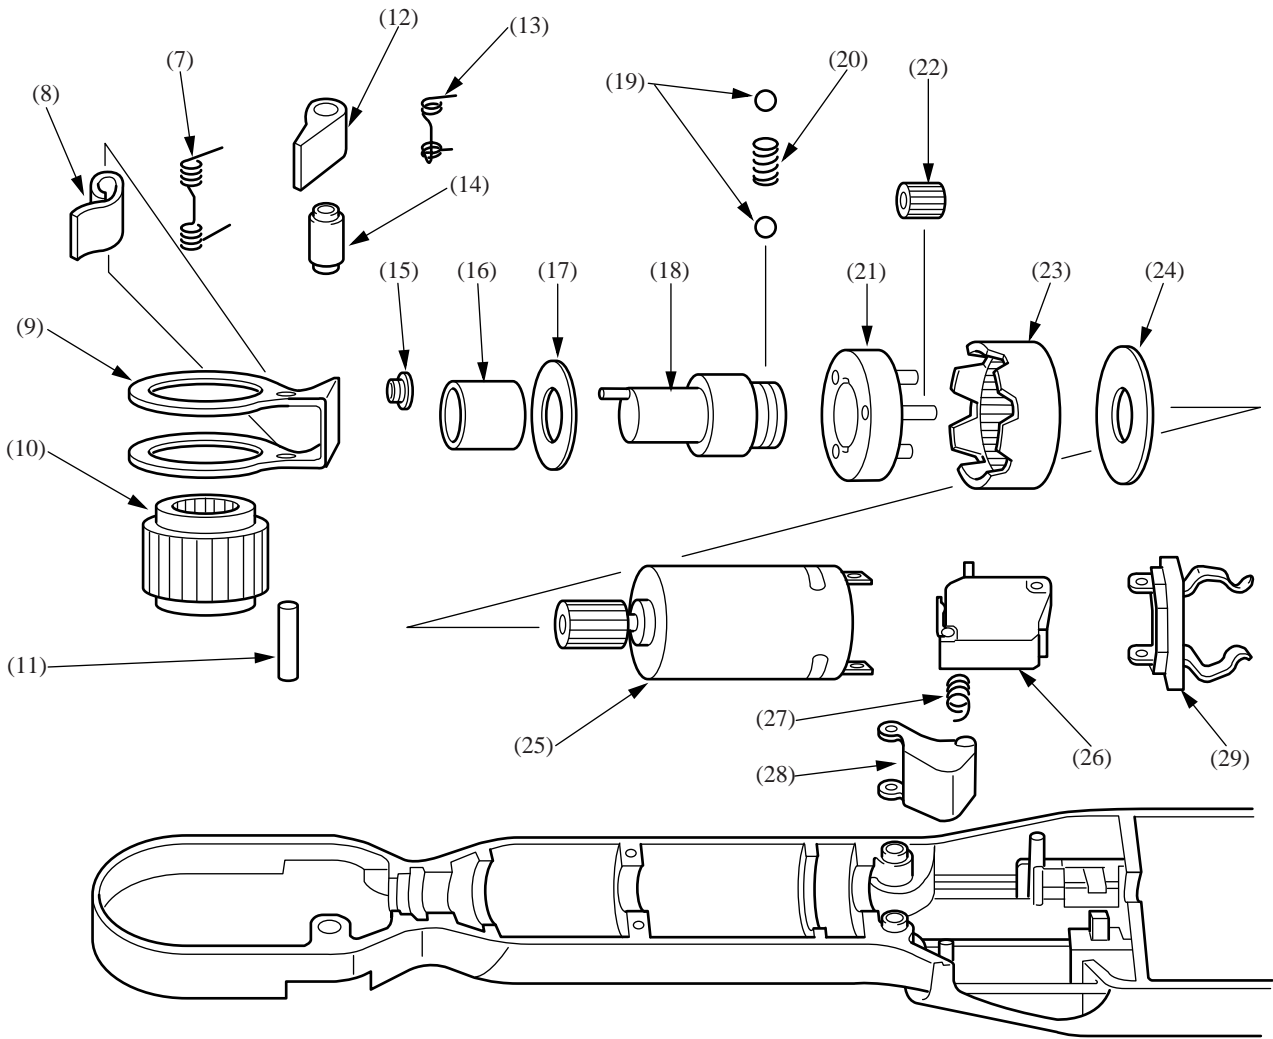

Fig.2
(2) The parts from 7 to 14 can be easily dismantled after the sub-housing R and L are taken off. Remove the housing R and then remove the parts from 15 to 29 out of the housing L. (Care must be taken not to misplace 27 the compression spring 6 in removing the parts.) (See fig.2.)
(3) 18 the spindle, 19 steel ball 3.5 20 compression spring 2.4 and 21 complete clutch cam assembly are the clutch related parts. Other parts can be manually dismantled. (See the fig.2.)
(4) Remove 21 the complete clutch cam assembly from 18 the spindle.(Be careful not to scatter 19 steel balls around in removing the 21 complete clutch cam assembly as the 19 steel balls 3.5 are pressed against the 21 complete clutch cam assembly with the 21 compression spring 2.4.) See the fig. 2.
(5) Replace the 20 Compression spring 2.4 and 21 complete clutch cam assembly together in replacing the clutch
(In assembling the internal spur gear, engage one of its slots against the rotation lock. Mount the 16 needle bearing 1015 by bringing it toward the left end as shown in the fig. 4.)(See the figs. 2, 3, & 4.)